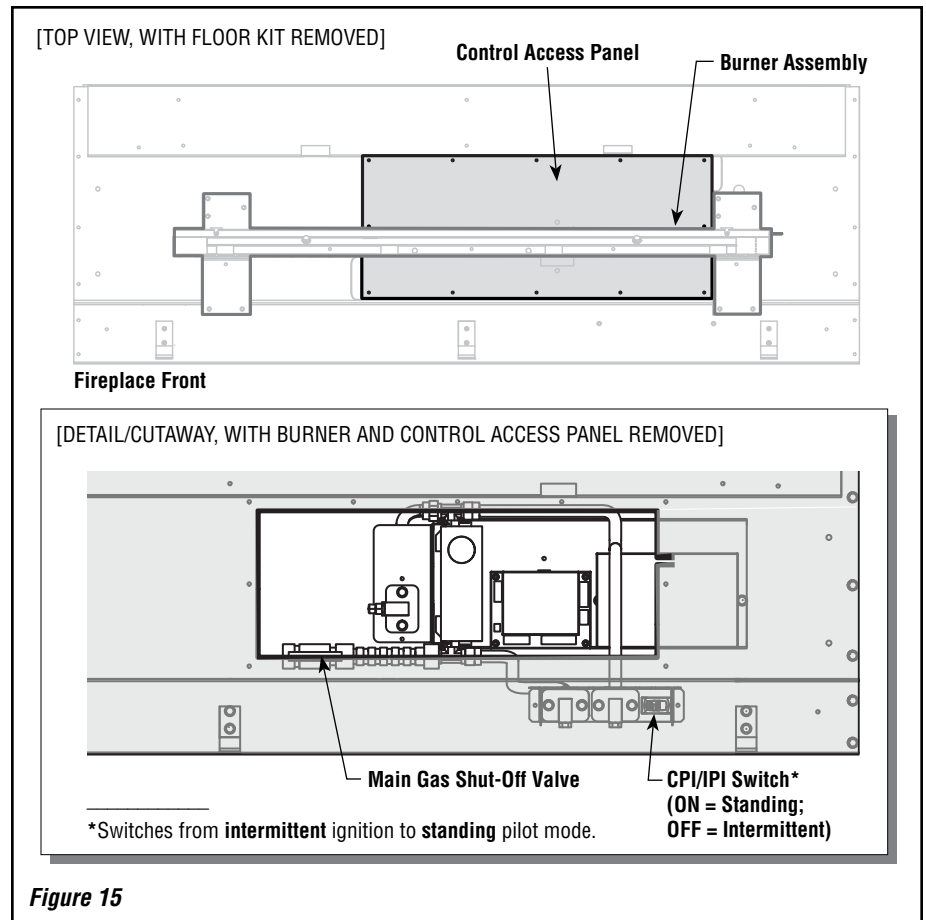

Figure 15
Test gauge connections are provided on the front of the gas control valve (identified **IN** for the inlet and **OUT** for the manifold side). To access the pressure taps on the valve, remove the four (4) screws in the access plate below the burner (*see Figure 15*).
The electronic system is switchable between standing and intermittent pilot modes (see **Figure 15**).